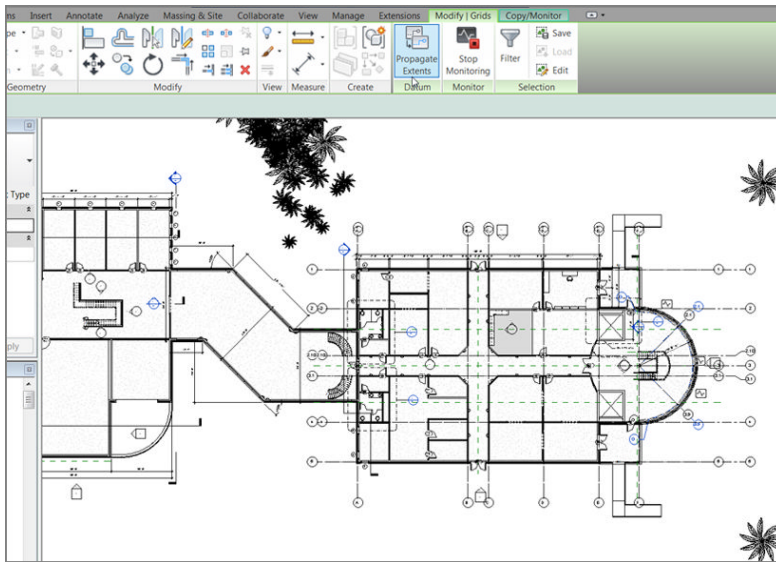

FIGURE 20.8: The copied grids
8. You may get a warning saying, "The following types already exist but are different." Close the warning. Your grids should look like Figure 20.8.